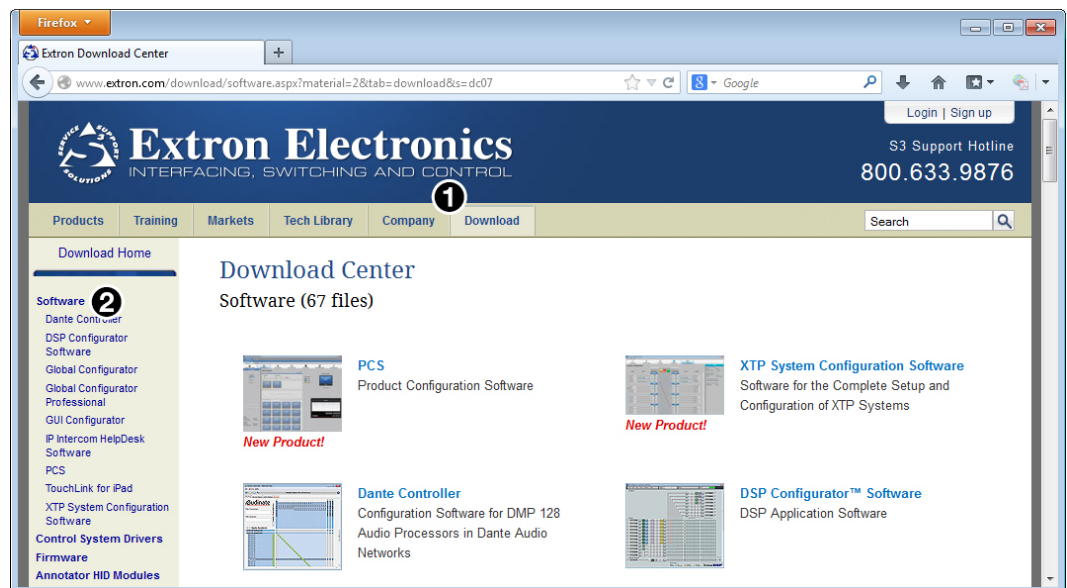

Figure 36. Firmware Loader on the Extron Website
1. On the Extron website, click the **Download** tab (see figure 36, **1**).